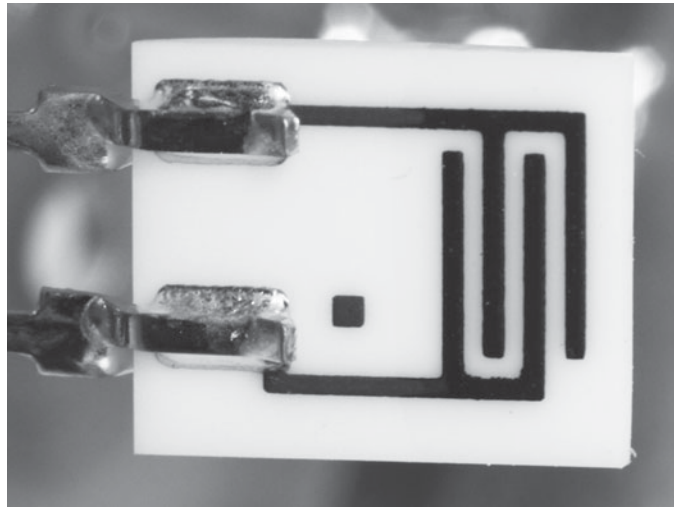

FIGURE 8-5 Humidity sensor
The relative humidity (RH) sensor used in this meter is a resistive sensor, shown in Figure 8-5, which consists of a moisture-absorbing substrate and conductive traces. With increased moisture in the air, more moisture enters the substrate and the resistance drops. In addition, the moisture in the substrate alters the capacitance between the conductive traces.